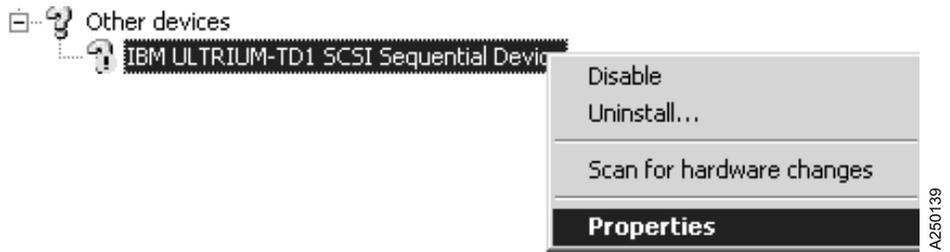

Figure 26. Other Devices Menu
8. Right-click the Ultrium device (labeled with a question mark), then click **Properties**. See Figure 26.